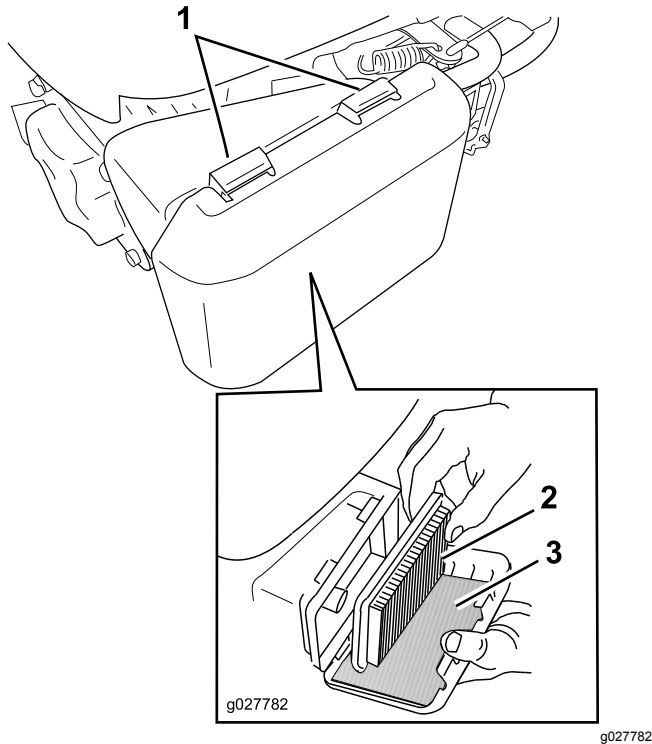

Figure 27
1. Press down on the latch tabs on top of the air-filter cover (Figure 27).
3. Remove the paper air filter and the foam pre-filter (Figure 27).